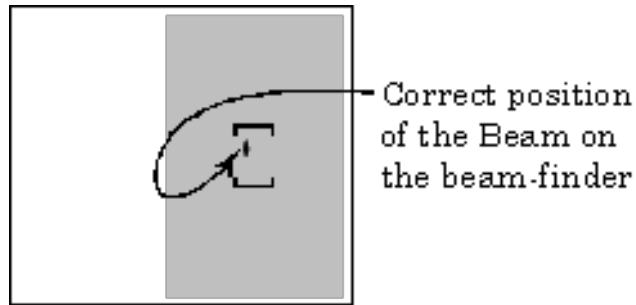

Figure 14: Inside the Spectrometer
3. There is a beam finder inside the unit. Using the knob on the back, bring this beam finder into view and hold it perpendicularly to the horizontal. You should see a dark spot on the beam finder. Orient the beam or spectrometer so that this spot lies in the upper left quadrant of the beam finder brackets (see Figure 14). Then lower the beam finder. Depending on which frequencies are lasing, you should see at least one spot or line under the appropriate wavelength indicator.